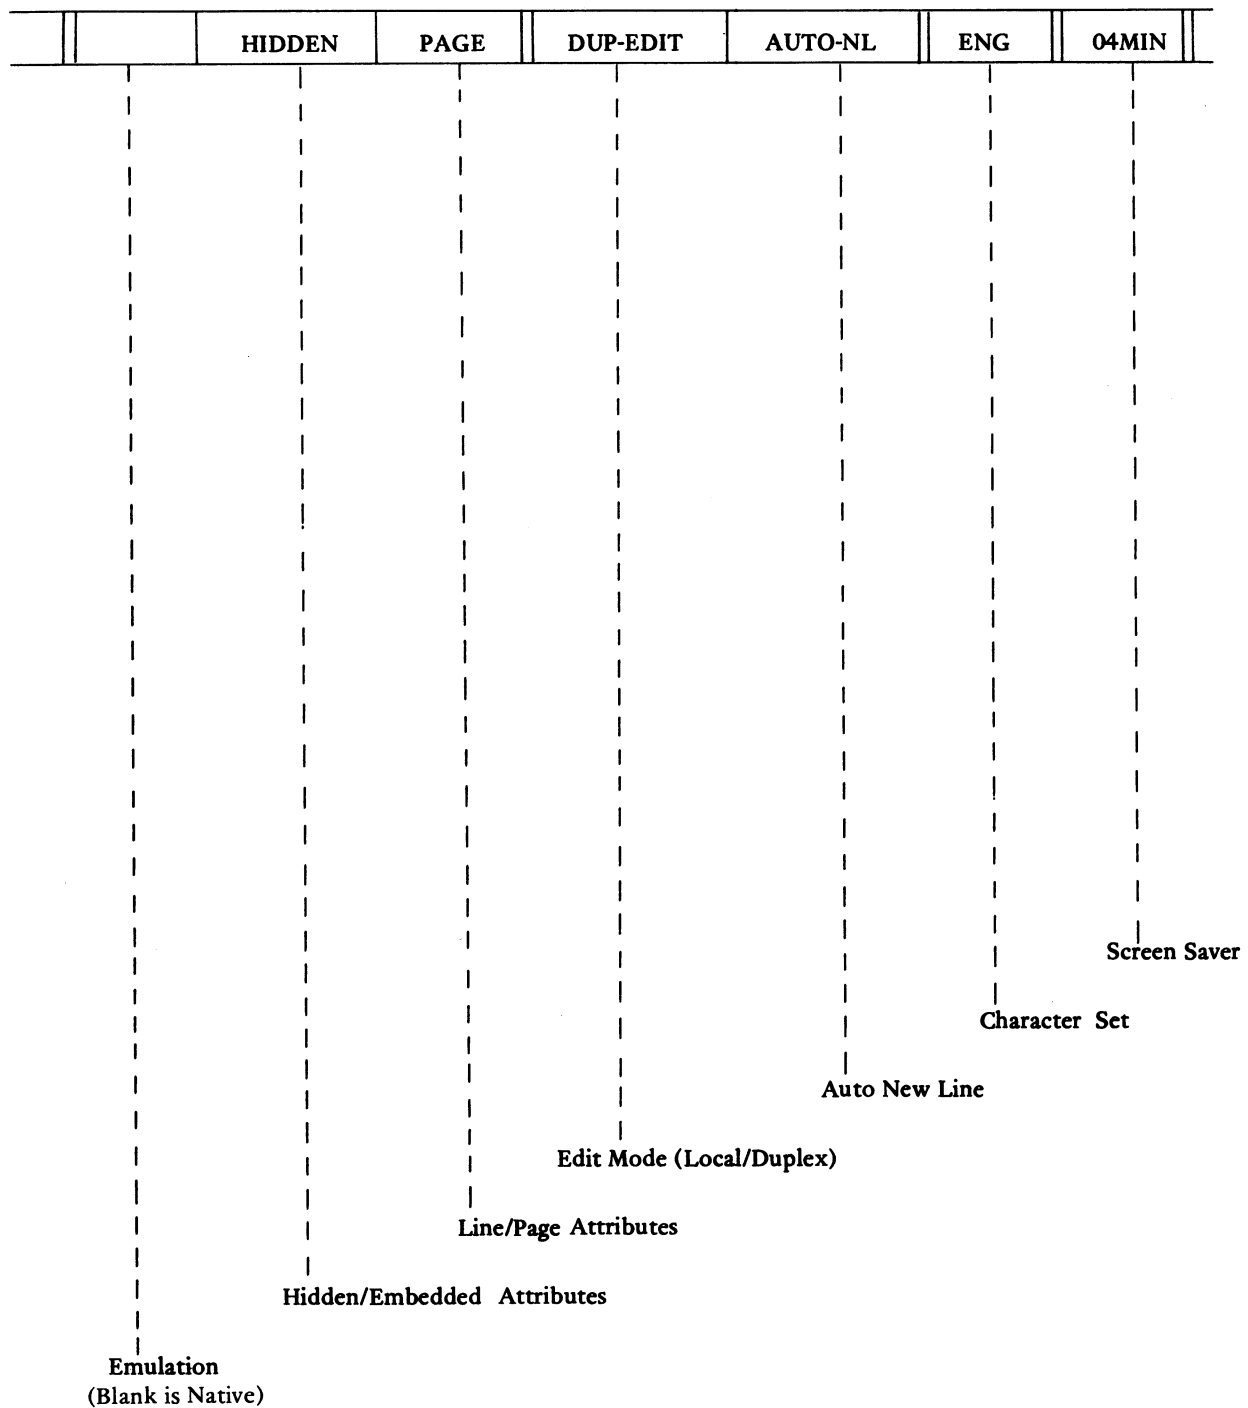

Figure 4-2: Set-Up Line B
6. Continue with Set Up Line B (see Figure 4-2), by pressing SHIFT/SET UP once more, or entering the cursor home code (1EH). This line contains other options available in the Kimtron Model KT-7 video terminal.